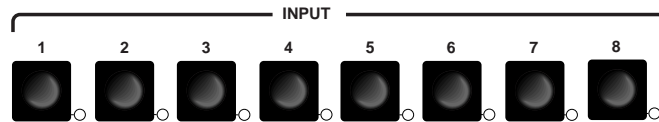

Figure 3-3 — Input selection buttons and LEDs
- ② **Input buttons** — The Input 1 through Input 8 buttons (figure 3-3) select the associated video input to scale and output. The switch can be a cut or a fade, depending on the switch mode; see “Fade Switch selection box”, on page 3-24. Audio always follows (switches with) the front panel video selection.